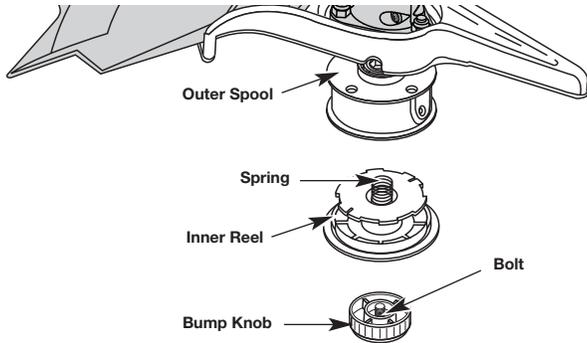

Fig. 27
1. Hold the outer spool with one hand and unscrew the bump knob clockwise (Fig. 27). Inspect the bolt inside the bump knob to make sure it moves freely. Replace the bump knob if damaged.
2. Remove the inner reel from the outer spool (Fig. 27).
3. Remove the spring from the inner reel (Fig. 27).
- Hold the outer spool with one hand and unscrew the bump knob clockwise (Fig. 27). Inspect the bolt inside the bump knob to make sure it moves freely. Replace the bump knob if damaged.
- Remove the old inner reel from the outer spool (Fig. 27).
- Remove the spring from the old inner reel (Fig. 27).